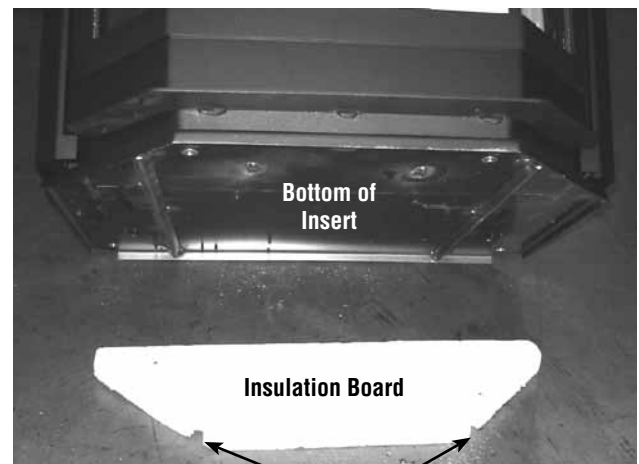

Figure 52
3. Set the insert on the insulation board. Now that the insert is level, place your insulation board in place where the insert will be installed and set the PI40 insert over the insulation board so the two front leveling legs line up with the two cut-outs in the front of the insulation board (see Figure 52). Your PI40 heat kit is now installed.